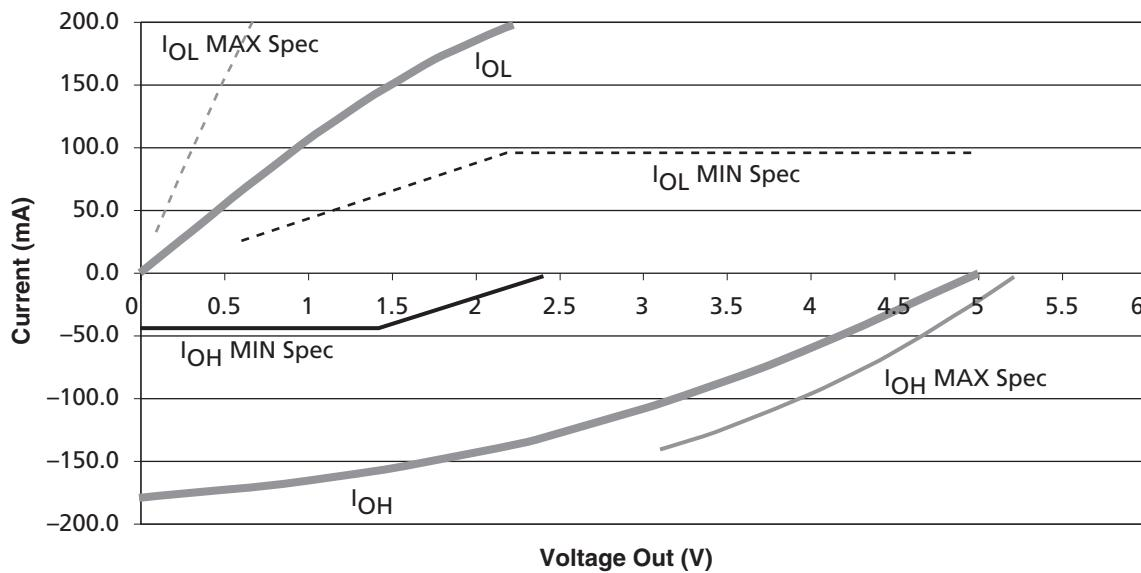

Figure 2-1 • 5 V PCI V/I Curve for SX-A Family
1. Refer to the V/I curves in Figure 2-1 on page 2-5. Switching current characteristics for $REQ\#$ and $GNT\#$ are permitted to be one half of that specified here; i.e., half size output drivers may be used on these signals. This specification does not apply to CLK and $RST\#$, which are system outputs. "Switching Current High" specifications are not relevant to $SERR\#$, $INTA\#$, $INTB\#$, $INTC\#$, and $INTD\#$, which are open drain outputs.
3. Maximum current requirements must be met as drivers pull beyond the last step voltage. Equations defining these maximums (A and B) are provided with the respective diagrams in Figure 2-1 on page 2-5. The equation defined maximum should be met by design. In order to facilitate component testing, a maximum current test point is defined for each side of the output driver.
Figure 2-1 shows the 5 V PCI V/I curve and the minimum and maximum PCI drive characteristics of the SX-A family.